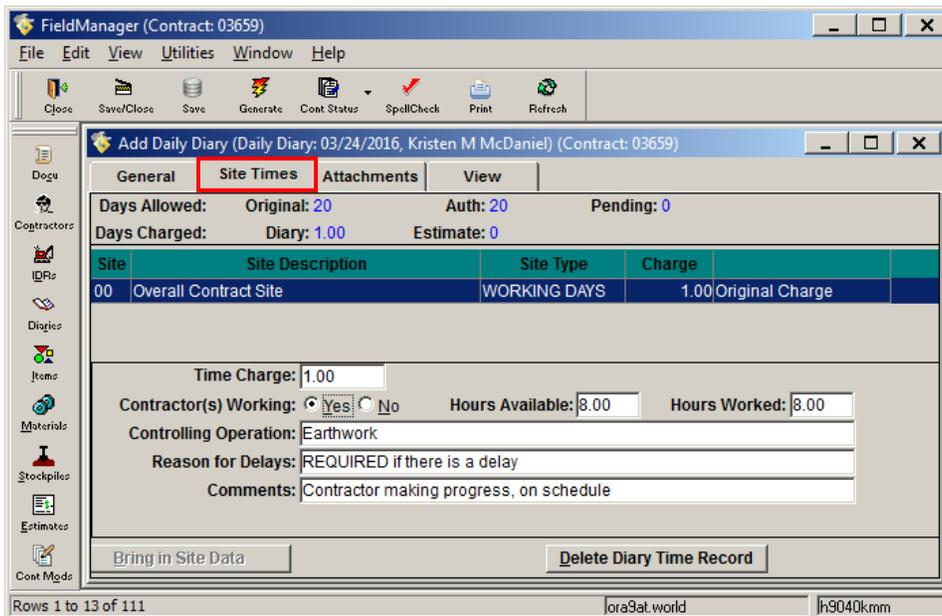

Figure 8-4. Add Daily Diary – Site Times Tab (**Working Day Contract**)
1. Click on the **Site Times** tab (Figures 8-4 & 8-5).
- **Time Charge:** The only valid entries for this field are: 1, 0, or -1. ***This field is required if you want to charge a day to a Working Day contract*** (Figure 8-4). This field CANNOT be left blank.